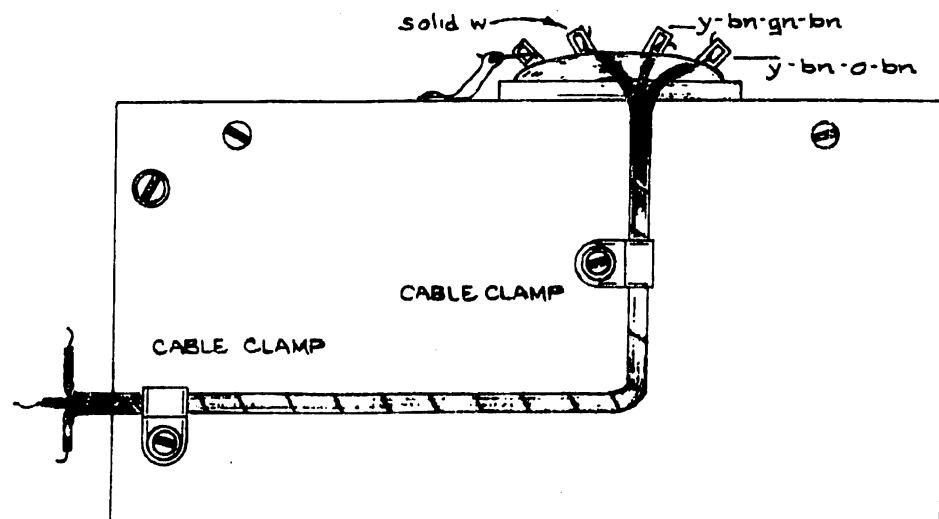

FIG. 5
- () 14. Mount the cable assembly (from kit) on the side of the C.S. box with the two cable clamps (from kit). See Fig. 5. Use the 6-32 PHS screws, flat washers, lockwashers and nuts from the kit.
- () 51. Solder the three wires to the transformer terminals, as shown in Fig. 5.